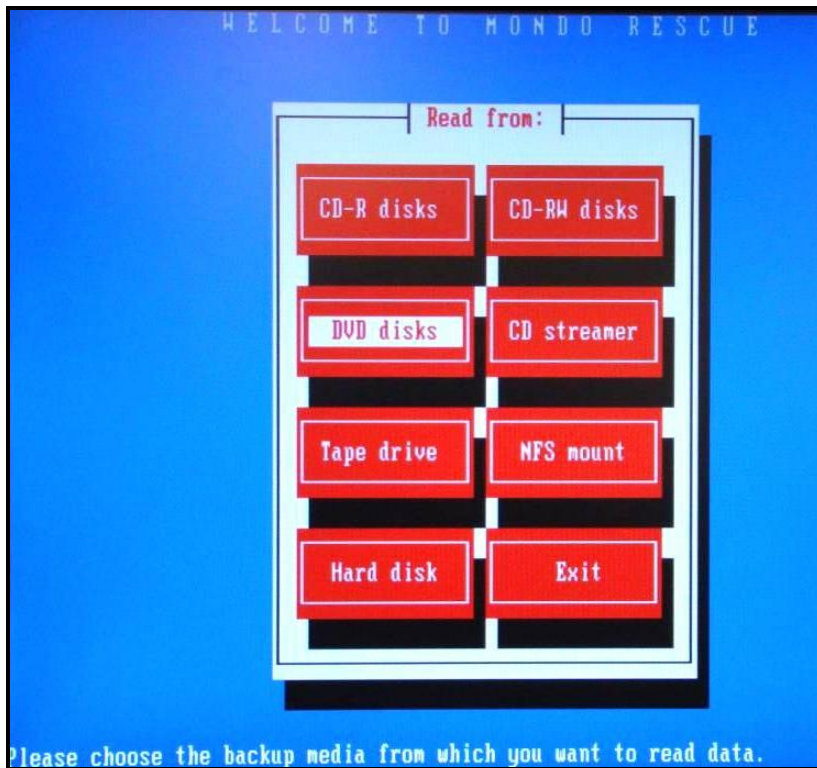

Figure 2: Read from: window
3. Select **Automatically**. The **Read from:** window opens, as shown in Figure 2.